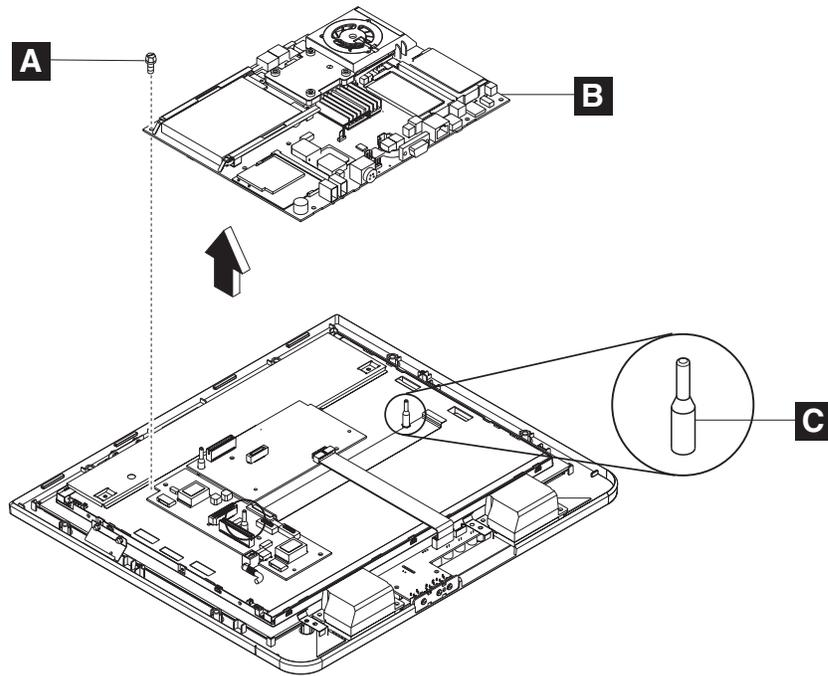

Figure 25. Removing the system board
4. See Figure 25 and remove the 5 screws (**A**) holding the system board (**B**).